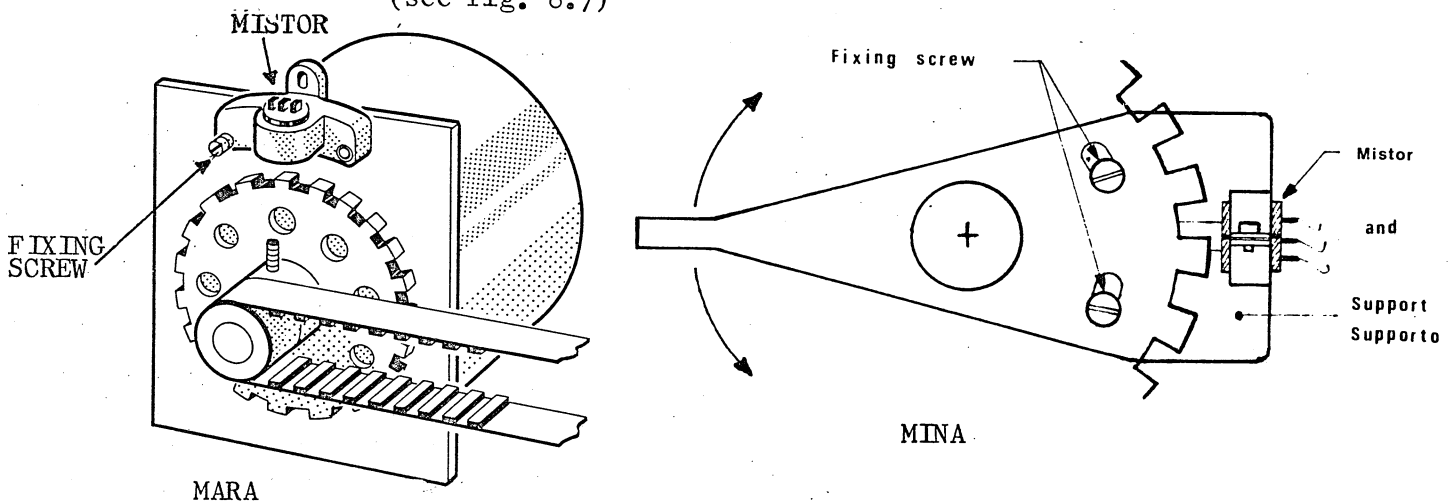

Fig. 8.7 Mistor Support Group
- . Set the MINA carriage in such a way as to align the toothed wheel windows with the fixing screws of the mistor support (see fig. 8.7)
- Loosen the fixing screws of the mistor support as to rotate the mistor through friction (figure 8.7)